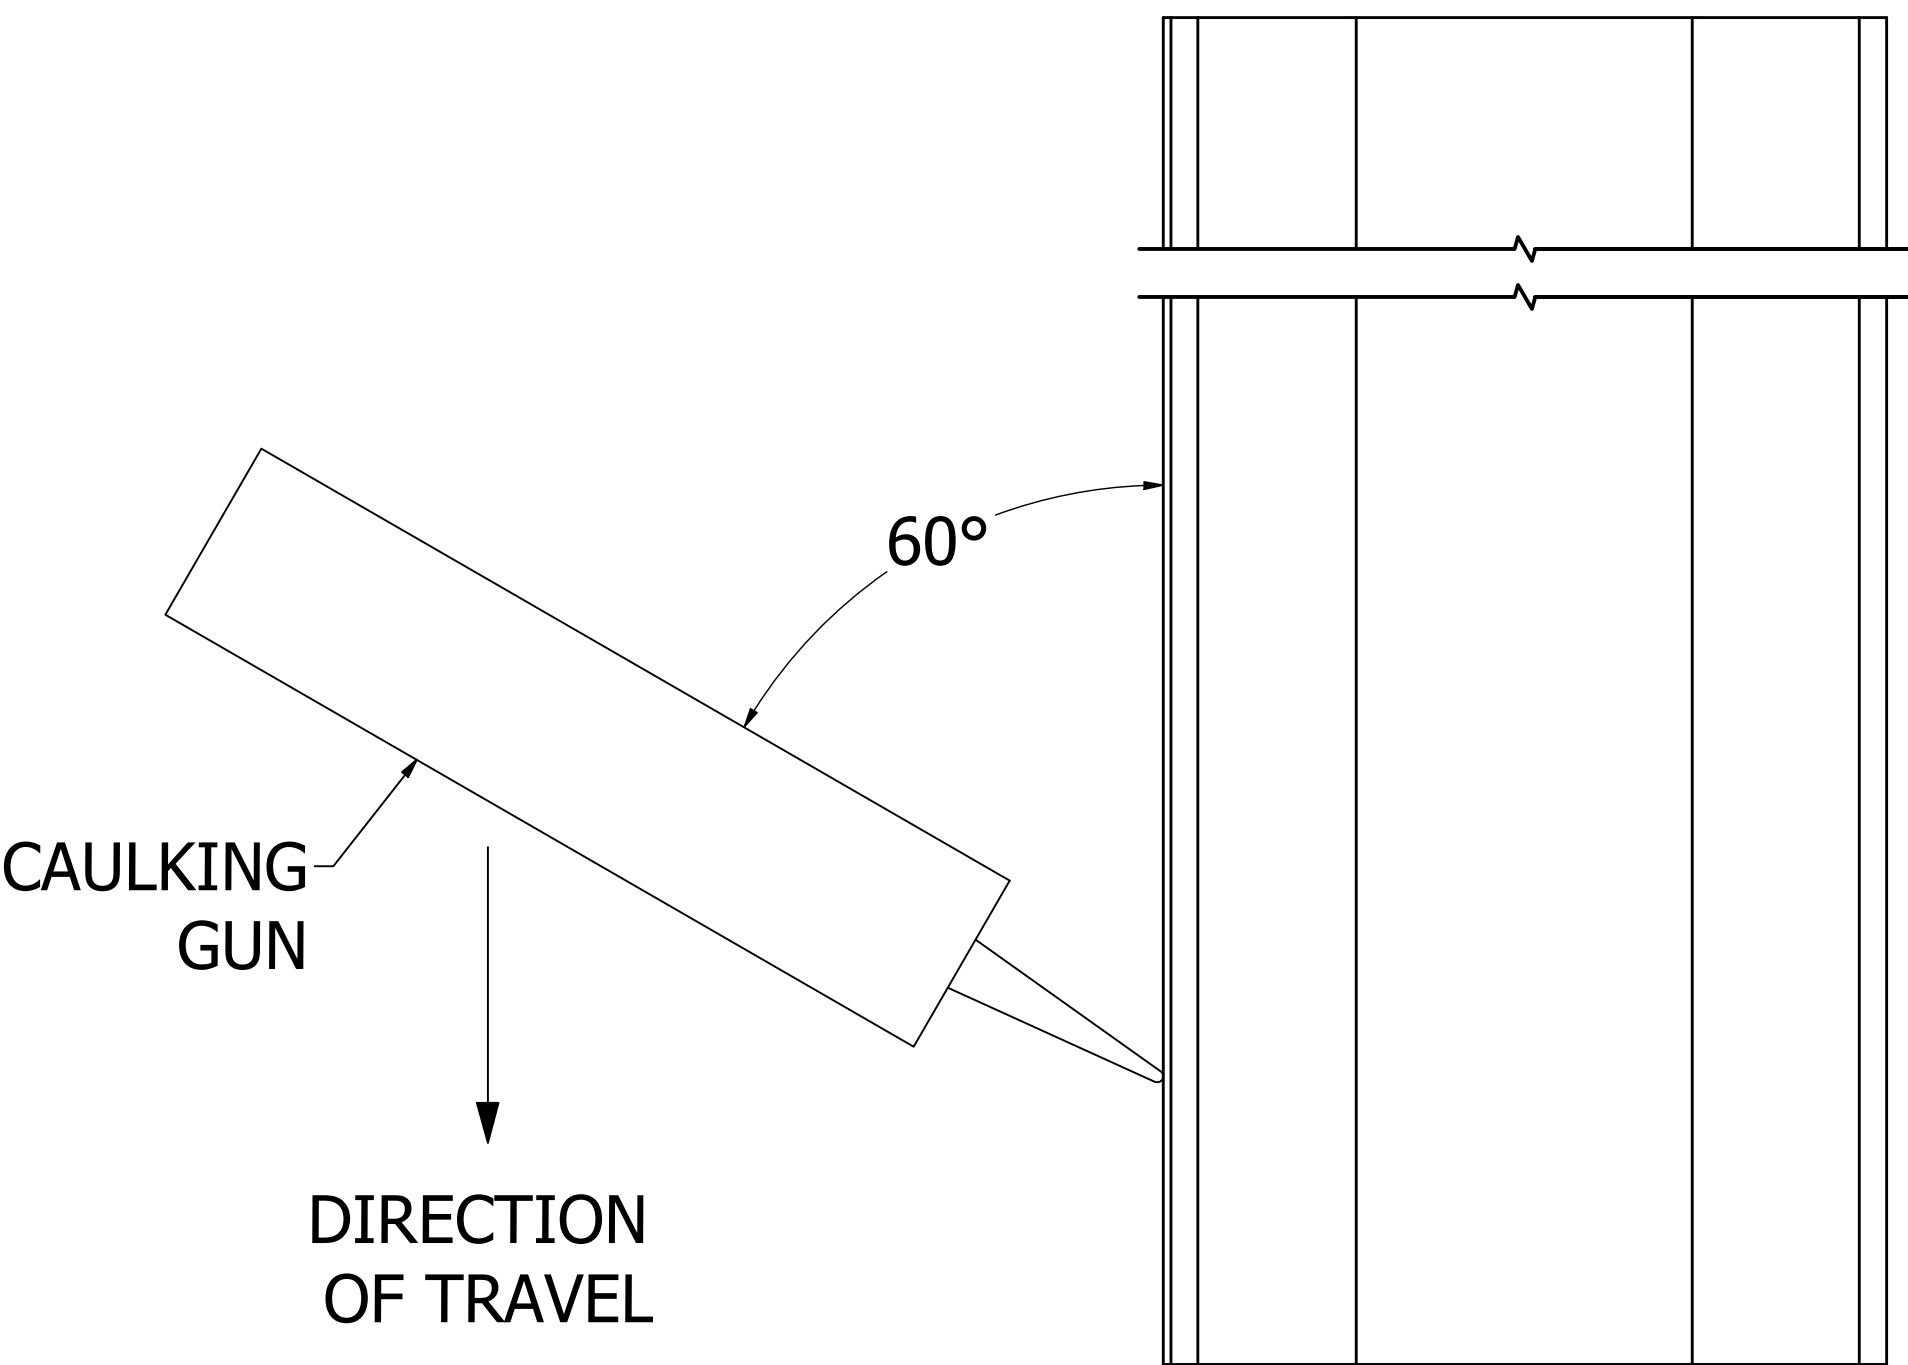

FIGURE 25: ADHESIVE SEALER
5. APPLY A 3mm" DIAMETER BEAD OF SIKAFLEX 221 OR SIMILAR ADHESIVE SEALER INTO THE EXPOSED SEAL GROOVE. HOLD THE CAULKING GUN AT A 60° ANGLE TO THE FLOOR SLAT. PUSH THE BEAD INTO THE GROOVE, DO NOT PULL (FIGURE 25).
- a) IF USING THE POLYURETHANE SEAL, THE BEAD SHOULD BE FROM THE END OF THE SEAL TO THE END OF THE SLAT (X).